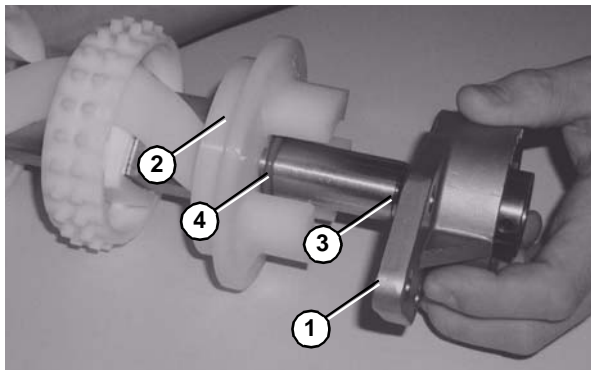

Figure 74
4. Attach O-rings (**Figure 74, item 4**), flanged pucks (**Figure 74, item 2**), washer (**Figure 74, item 3**) and the 3 hole flange with bearing (**Figure 74, item 1**) to the drive spindle.